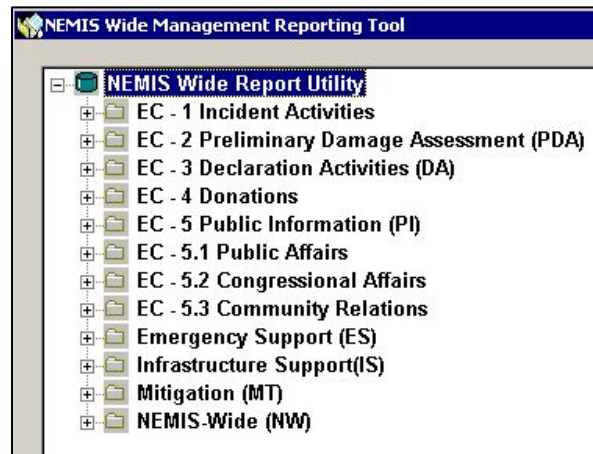

Figure 14-2: NEMIS Wide Management Reporting Tool
2. The NEMIS Wide Management Reporting Tool is displayed (Figure 14-2).